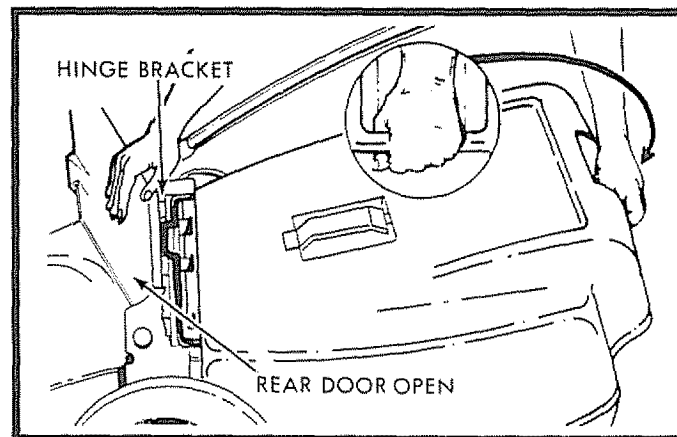

FIG. 5
- Hold catcher by handle and place catcher frame onto hinge bracket (See Fig. 5).